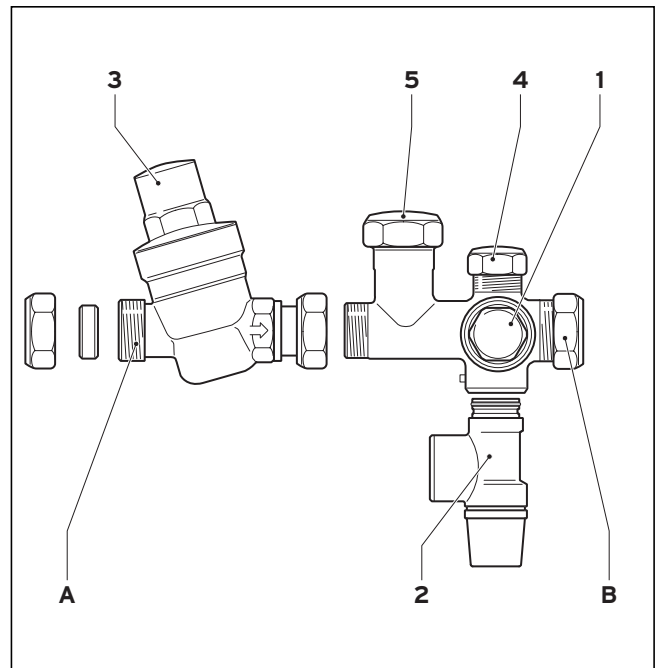

Fig. 8
- Connect the two cold water control valves together as shown in fig. 8, ensuring that the orientation of the valves, when installed in the cold mains supply, allows the 15 mm outlet of the expansion relief valve to be connected to the tundish.
- Provide a cold water mains supply to the uniSTOR. To ensure optimum performance from the uniSTOR, and particularly in installations where the balanced pressure cold water outlet (5, fig. 8) is to be used, the pipework provided from the building mains stop valve to the uniSTOR cylinder should be minimum 22 mm copper tube.
- Install the assembled cold water control valves (fig. 8) in the cold mains supply at a convenient position adjacent to the uniSTOR cylinder, ensuring adequate space exists for service access and allow for connection of the discharge pipe from expansion relief valve.
- i. Screwing the vessel directly into the control assembly at the purpose provided connection (1, fig. 8) or;
- ii. Connecting the vessel to the control assembly via copper pipe or a suitable approved flexible connection hose (4, fig. 8), ensuring that the vessel is adequately supported.
- Connect the balanced pressure cold water supply (if required) to the cold water control pack (see fig. 8).
In areas where the mains water pressure is high (4 bar or above) the cold water supply to a bath or shower mixer valve can be taken from the balanced pressure cold water outlet (5, fig. 8) of the cold water controls. This will ensure that both hot and cold supplies to the mixer valve are at approximately the same pressure. The cold water supply for all other terminal fittings should be feed into the cold water supply pipework to the uniSTOR upstream of the cold water controls.